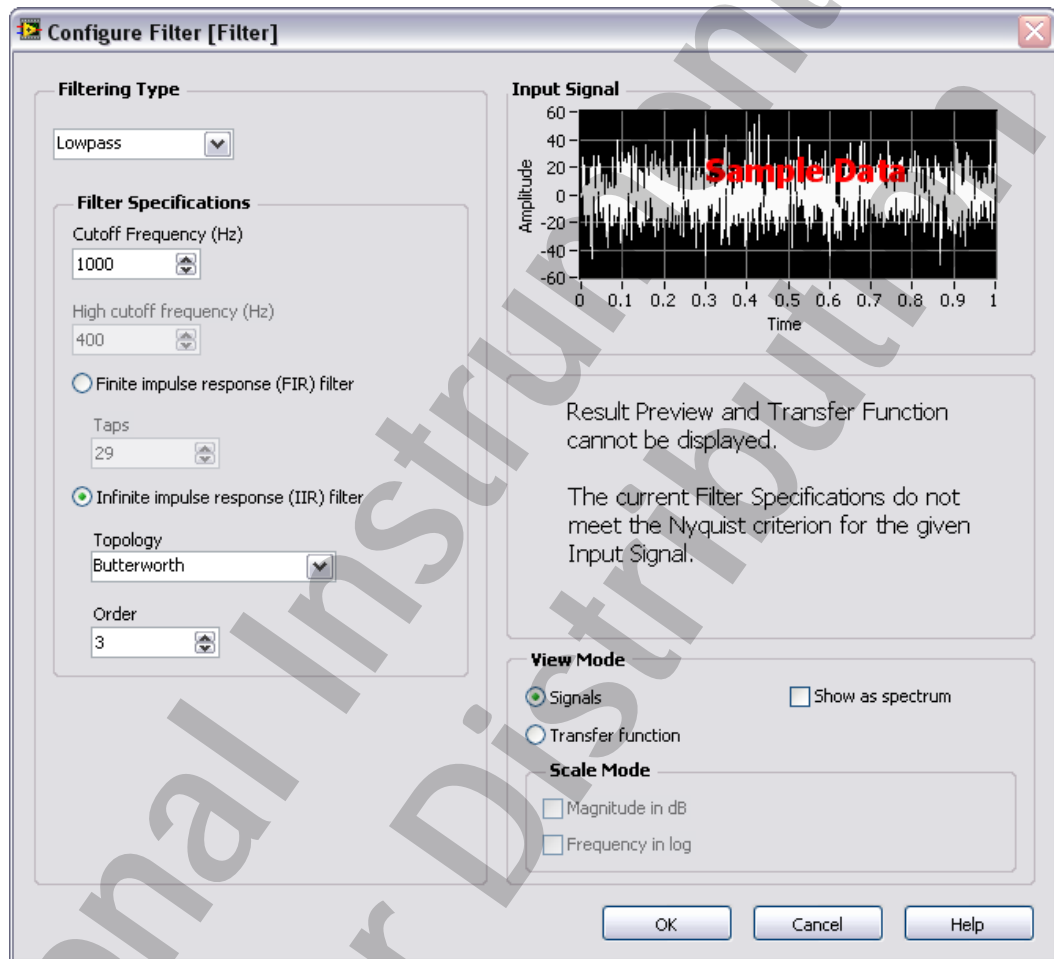

Figure A-9. Configure Filter Dialog
- In the **Configure Filter** dialog box, set the options as shown in Figure A-9.